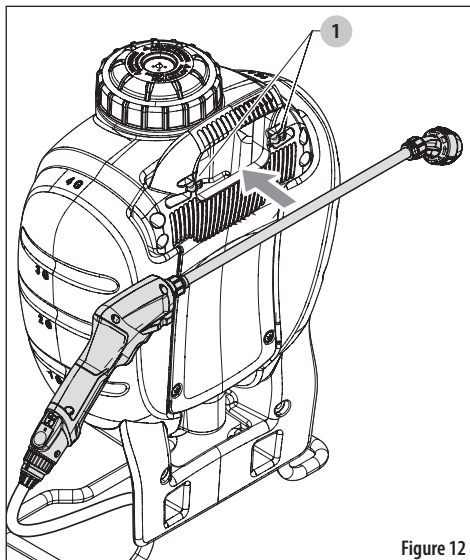

Figure 12
There are horizontal wand storage clips (1) attached to the back of the tank which the wand can be secured with. The horizontal wand clips help with storage as it reduces the space needed around the sprayer. See Figure 12.